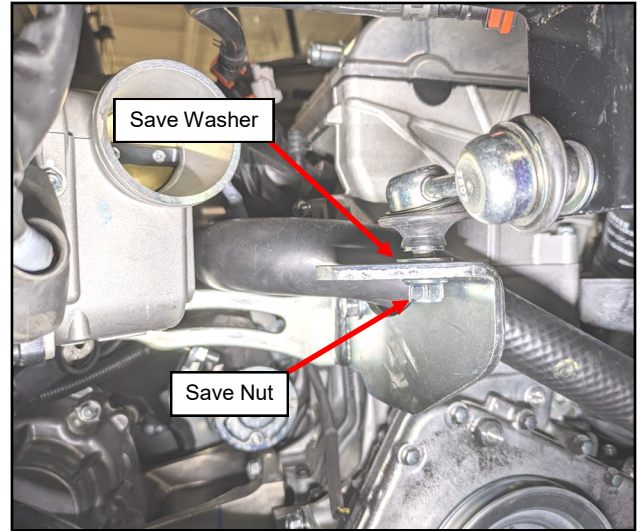

Fig. 2.15 (Disconnect Stabilizer Rod)
2.15 Disconnect stabilizer rod from upper alternator mount per fig 2.15. Save the nut and washer for reuse.